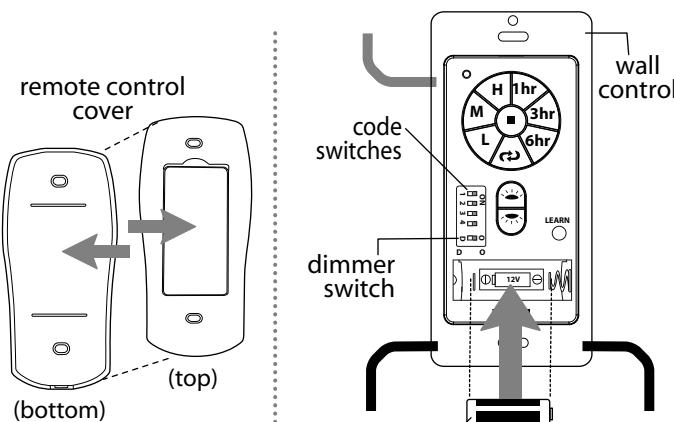

Fig. 6
- A. Gently pull on remote control cover to separate top and bottom parts. (See Fig. 6)